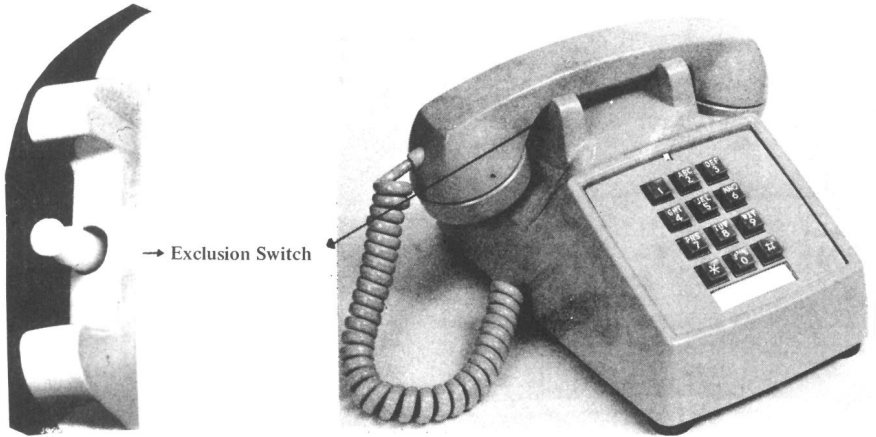

FIGURE 1. The Left Hand Cradle Plunger Serves as the Exclusion Switch
1.01 This practice provides the connections for the 2502**(BA)30M telephone set. This set is a desk type, touch-tone instrument equipped with an exclusion switch. See Figure 1.